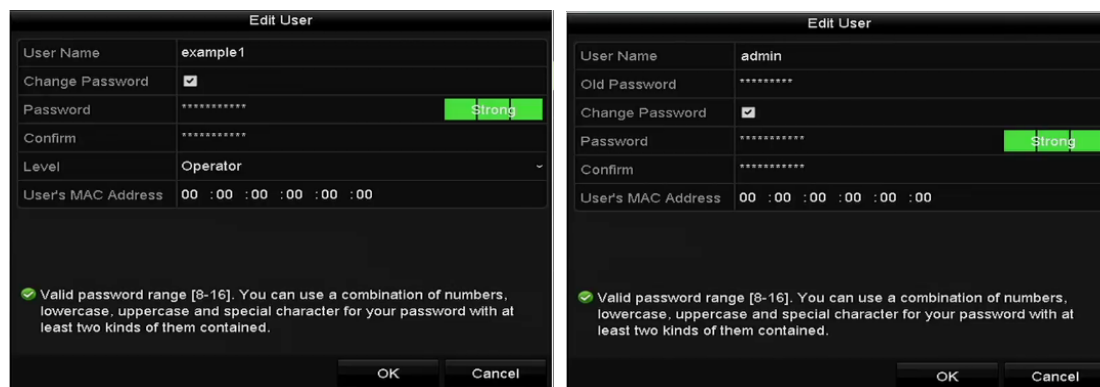

Figure 16.10 Edit User Interface
3. Click the icon to enter the Edit User interface, as shown in Figure 16.10.